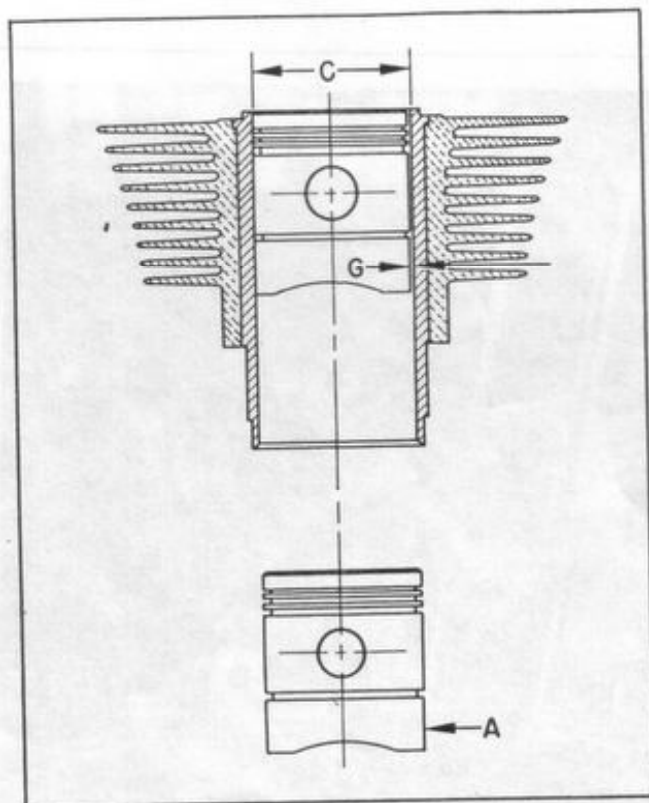

Figure 30.
13. See Figure 30 and chart (Figure 31) for assembly tolerances and wear limits of cylinder and piston.
Tolerances UNDER or ABOVE the NOMINAL SIZES of the PISTON are checked at point A, Figure 30.